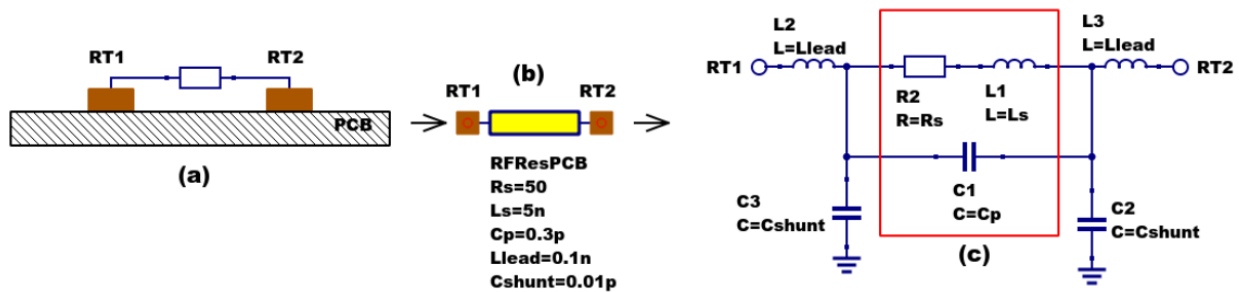

Figure 2 - PCB mounted resistor: (a) axial component mounting, (b) Qucs symbol and (c) equivalent circuit model.
The schematic symbol, I/V equation and parameters of the Qucs linear resistor model are shown in Figure 1. In contrast to this model Figure 2 illustrates the structure of a printed circuit board (PCB) mounted metal film (MF) axial RF resistor (a), its Qucs schematic symbol (b) and its equivalent circuit model (c). A thin film surface mounted (SMD) resistor can also be represented by the model shown in Figure 2 (c).
At signal frequencies where the largest dimension of an axial or SMD resistor is less than approximately 20 times the smallest signal wavelength a resistor can be modelled by a lumped passive circuit consisting of a resistor **Rs** in series with a small inductance **Ls** with the combination shunted by parasitic capacitor **Cp**. In Figure 2 **Rs** is the nominal value of resistor at its parameter extraction temperature **Tnom**, **Ls** represents the inductance associated with **Rs** where the value of **Ls** is largely determined by the trimming method employed during component manufacture to set the value of **Rs** to a specified tolerance. Similarly, capacitor **Cp** models a parasitic capacitance associated with **Rs** where the value of **Cp** is a function of the physical size of **Rs**. At RF frequencies it is important, for accurate operation, to add lead parasitic elements to the intrinsic equivalent circuit model shown within the red box draw in Figure 2. In Figure 2 **Llead** and **Cshunt** represent resistor series lead inductance and shunt capacitance to ground respectively.
A typical set of model parameters for a 51 Ω 5 % MF axial resistor are (1) **Ls = 8nH**, **Cp = 1pF**, **Llead = 1nH** and **Cshunt = 0.1pF**. Illustrated in Figure 3 is a basic S parameter test bench circuit for measuring the S parameters of an RF resistor over a frequency range 1 MHz to 1.3 GHz. This example also demonstrates how the real and imaginary parts of a resistor model impedance can be extracted from S parameter simulation data. The graphs in Figure 3 clearly demonstrate that the impedance of the typical MF RF resistor described in previous text and modelled by the equivalent circuit shown in Figure 2 is a strong function of frequency at higher frequencies in the band 1 MHz to 1.3 GHz.
Figure 8 - Qucs device model parameter extraction system applied to a nominal 47 Ω resistor represented by the subcircuit model illustrated in Figure 2 (c). Fixed model parameter values: **Rs = Rm = 47.3 Ω**, **CShunt = 0.08pF**; Optimised values: **Ls = L = 10.43nH**, **Llead = LL = 1.47nH**, **Cp = C = 0.69pF**. To reduce simulation time the ASCO cost variance was set to 1e-3. The ASCO method was set to DE/best/1/exp.
Figure 13 - Qucs device model parameter extraction system applied to a nominal 100 Ω SMD resistor represented by the subcircuit model illustrated in Figure 2 (c).
Listed below is an example Verilog-A code model for the RF resistor model introduced in Figure 2 (c). Due to the limitations of the Verilog-A language subset provided by version 2.3.4 of the "Analogue Device Model Synthesizer" (ADMS)⁴ inductors **Ls** and **Llead** are modelled by gyrators and capacitors with values identical to **Ls** or **Llead**.